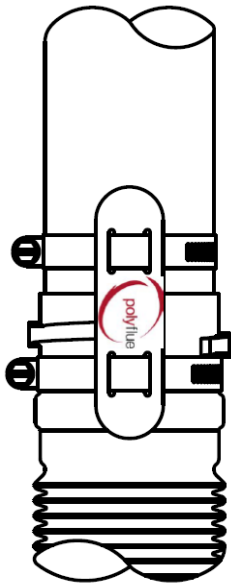

Figure 21
2. Position Locking Band (LB) or Wall Strap (WS) (required just before exiting roof) onto upper rigid pipe section (UV rated if passing through the roof) and slide the lower hose clamp onto the female-cut flexible pipe, in between the twist lock groove and the gasket groove as shown below (Fig 21).
2. Fasten together the top UV rated rigid pipe section to the flexible pipe as shown above (Fig 21). It is permissible to cut the UV rated rigid pipe (at the male end) if the length will be aesthetically too tall above the flashing, keeping in mind any local code height requirements.
2. Fasten together, the top UV rated Polyflue rigid pipe section to the flexible pipe as shown previously (Fig 21)